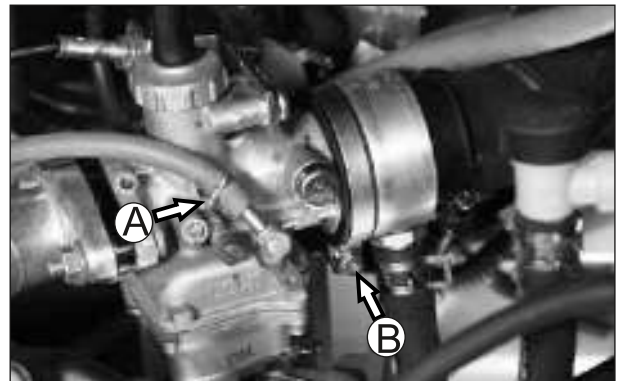

Fig. 4.18
- Disconnect the hose solenoid LPG / CNG from carburetor (A). (Fig. 4.18)
- Loosen and remove 1 no. Hose clip carburetor mounting. Separate the mixer body assembly from carburetor (B). (Fig. 4.18)